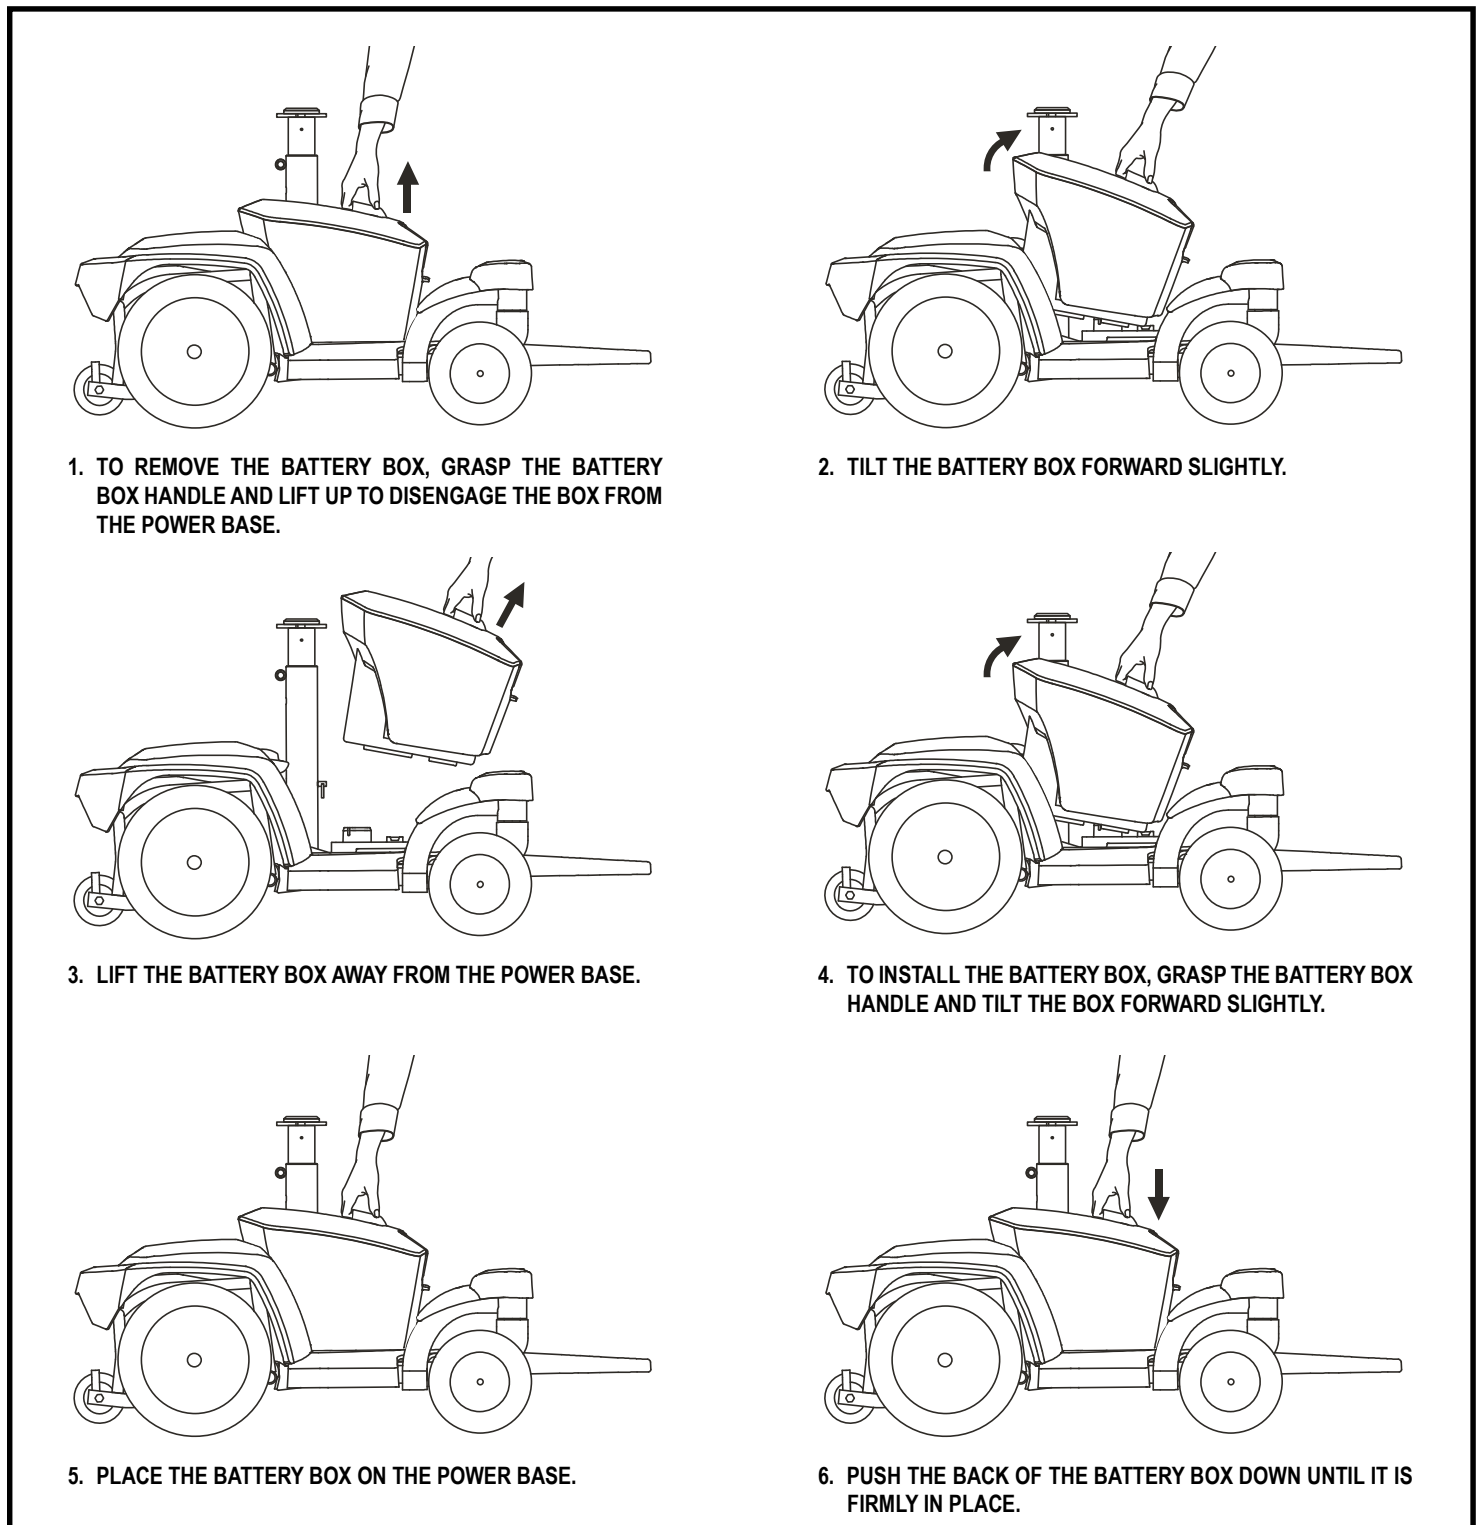

Figure 17. Removal and Installation of Go Chair Battery Box (Go Chair shown)
**WARNING!** When faced with an emergency situation, the batteries can be quickly disconnected by grasping the battery box handle and lifting up and then tilting the battery box forward slightly and then away from the power chair. Use caution. Be advised that turning off power to the power chair may cause the power chair to stop abruptly. To release the emergency stop and restore driving capability to the power chair, reinstall the battery box onto the power chair. See figure 17.